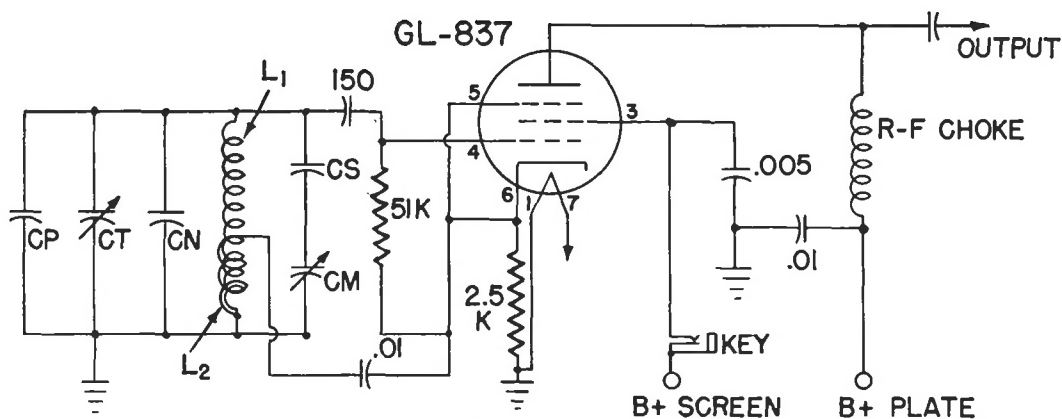

Fig. 2. Circuit Diagram of One-band ECO
Many types of oscillators can be used to generate a radio-frequency signal, and most of these types (ECO, Hartley, tuned-plate grid tickler, tuned-plate tuned grid and negative transconductance) have been used in VFO design. All of them, properly applied, will give a satisfactory VFO. The ECO was chosen because it fits in with more of the requirements which were subsequently found necessary. The schematic diagram, Fig. 2, gives the basic circuit for the electron-coupled oscillator to be used in the Five-band VFO.
Let us assume that you want to calculate the necessary L and C for the circuit in Fig. 2 for a given band—say 1750 to 2000 kilocycles. First, you must select a value of total capacitance ($CP + CT + CN + CM + \text{stray}$). This is not difficult, and as a starter you should use 500–1000 mmf for 160, 80 and 40 meters, and 300–600 mmf for 20 meters. Call it 500 mmf in this case. The next step is to find the capacitance variation necessary to tune across the band. The formula for this is:
It is possible to take the circuit in Fig. 2 and add a tuning condenser and coil in the plate circuit (instead of the r-f choke shown). The coil would be resonant at the frequency generated by the grid circuit. The tuning condenser would allow us to peak the plate circuit, and thus we would be able to drive any other tube desired. This system would work perfectly if our mechanical and electrical design were also perfect. It is much safer not to tune the plate circuit, if frequency stability is desired. In other words, the less we do with the plate circuit, the less the plate circuit is likely to affect the grid circuit.
An untuned plate circuit is shown in Fig. 2. It consists of an r-f choke, which in reality is a broadly resonant coil and condenser combination. The capacitance exists due to the turn-to-turn capacitance in the r-f choke itself. A mica or ceramic condenser couples this stage to the following stage. A plate circuit of this sort has one disadvantage over the tuned circuit, in that less output will be obtained. However, it is undesirable to take a lot of power from an oscillator, so that the untuned plate circuit is ideal in this case.
If temperature compensating condensers are used further adjustment is needed. Referring to Fig. 2, CN and CT are the condensers in question. They are adjusted by listening to the signal on a receiver, and then deliberately adding heat to the oscillator grid circuit. An infra-red heat lamp is ideal for this. If the frequency increases as the temperature rises, add capacity in the negative temperature coefficient condenser (CN) and take out capacity by CT so that the frequency comes back to the same point. Keep this up until the frequency is as constant as possible, due to heat increase or decrease.